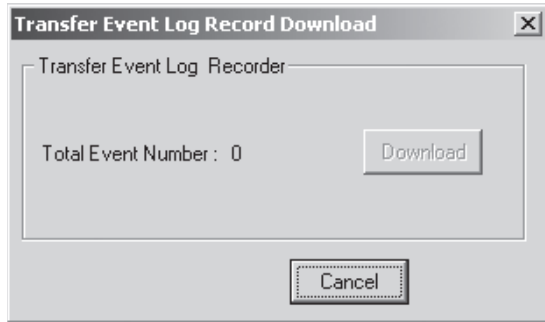

Figure 3-21 Transfer Event Log Record Download Screen
1. From the ISScom Main Screen menu select **System/Transfer Event Log/Download**. ISScom® will display the Transfer Event Log Record Download screen (Figure 3-21) and indicate the number of Transfer Events available for download.